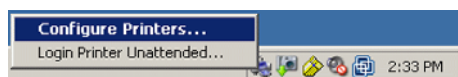

Figure 35 ECM Print Service icon
- 8 Right-click the ECM Print Service icon in the task bar and select **Configure Printers**, see Figure 35 on page 138.